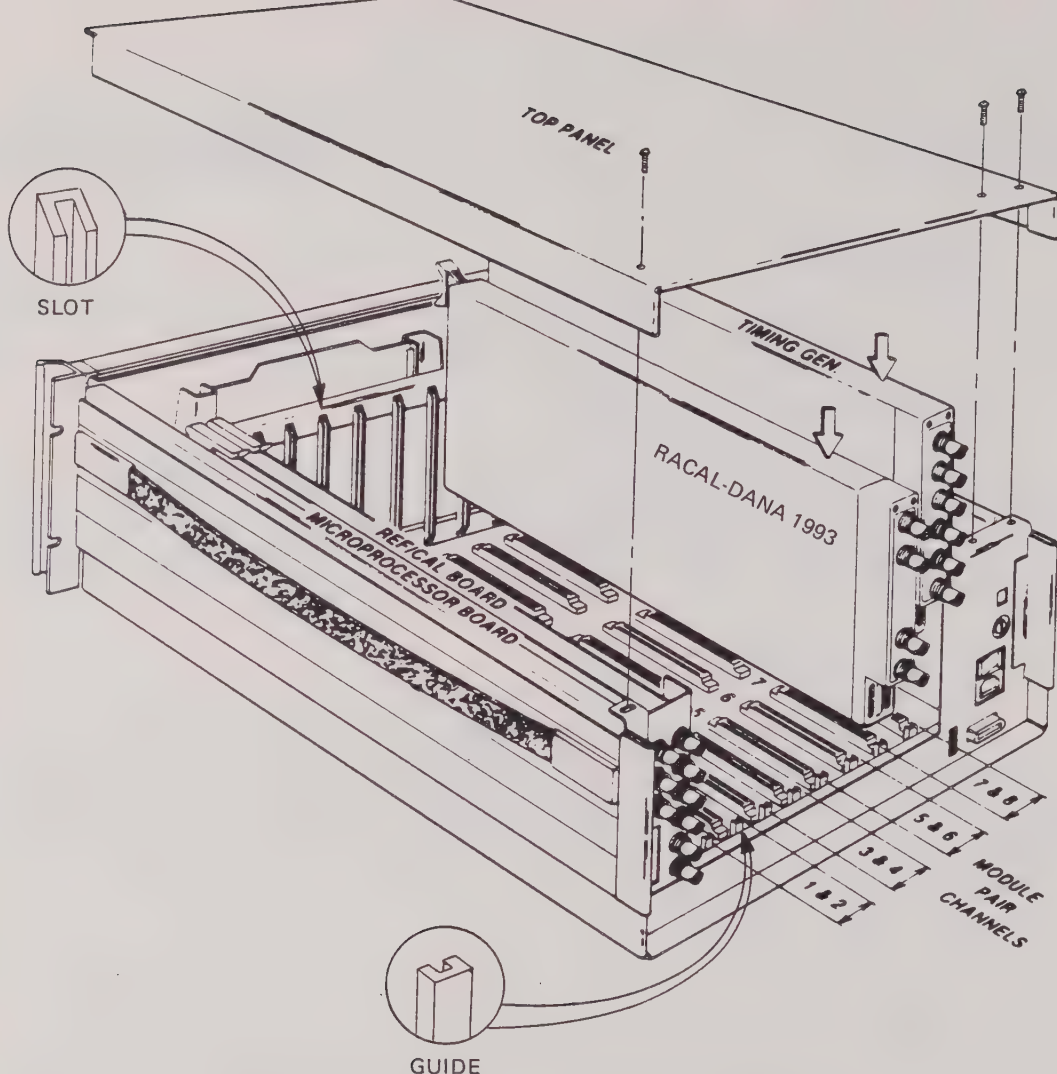

Figure 2-1. 1993 Module Installation
- b. Place the 1993 module into the channel slots as shown in Figure 2-1. When inserting the 1993 into the slots, ensure the module guides slide into the top chassis alignment guides at either end of the module. Before setting the 1993 module in its channel slot, visually verify correct positioning.